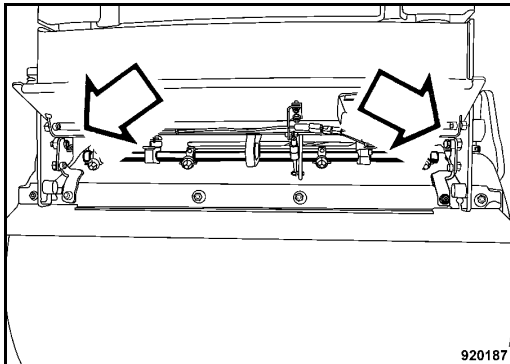

Fig. 151
- Open the flap, check the scrapers, replace if necessary (Fig. 151).